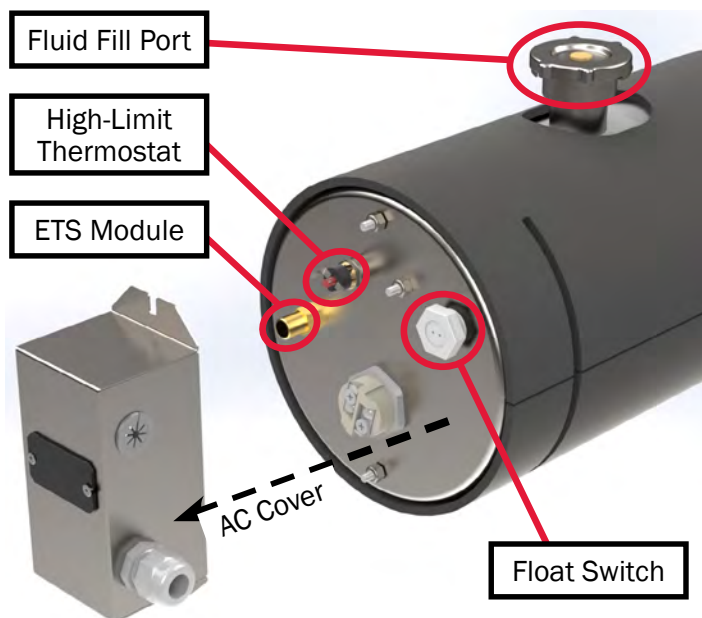

Figure 79
7. Locate the high-limit thermostat within the Aqua-Hot (see Figure 79). Test the thermostat for functionality, and replace if necessary.
8. Locate and test the ETS module (Figure 79) for functionality. Replace if necessary.